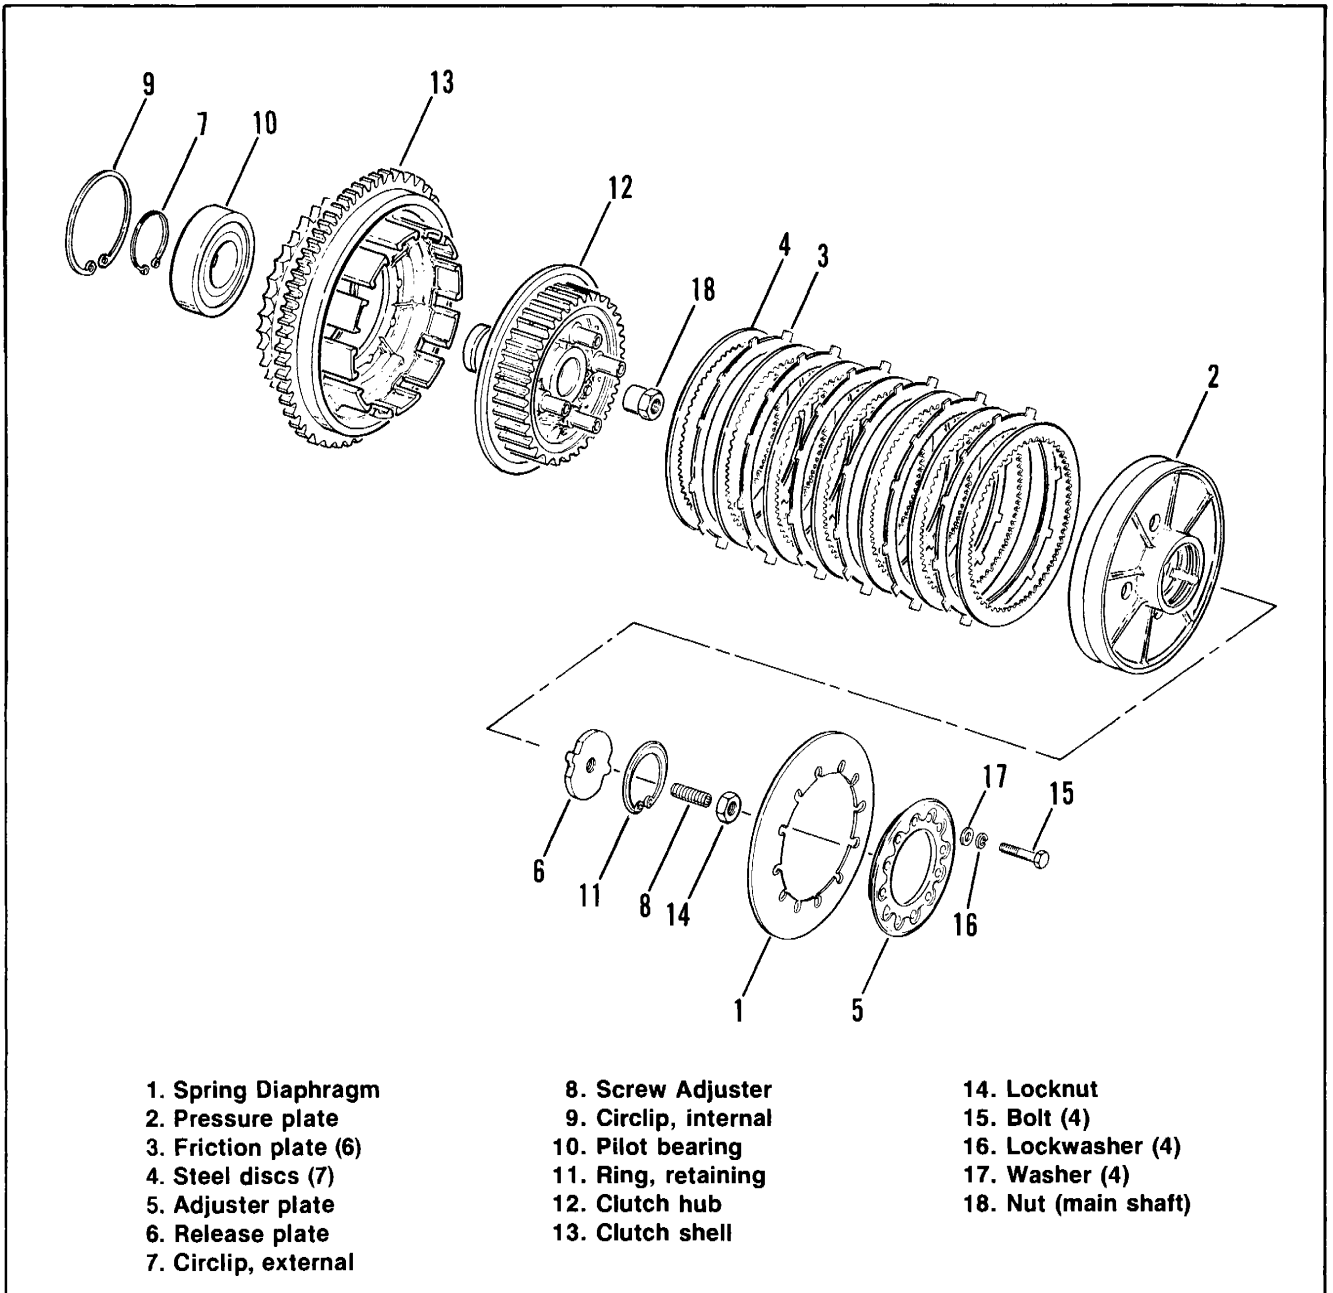

Figure 6-25. Wet Clutch — Exploded View
4. See Figure 6-25. Alternately loosen and remove the four bolts (15) together with lockwashers (16) and washers (17). Remove the adjuster plate (5) and spring diaphragm (1).
5. Remove pressure plate (2). The friction plates (3) and the steel discs (4) can now be changed or inspected without any further disassembly.
6. Remove nut (18) from the end of transmission main shaft. **The nut and shaft have left hand threads.** Remove push rod end piece.
8. See Figure 6-25. Remove the steel discs (4) and friction plates (3).
9. With lock ring pliers, remove internal circlip (9) and external circlip (7).
CLEANING, INSPECTION AND REPAIR (Figure 6-25)
- See Figure 6-25. With lock ring pliers, expand external circlip (7) into groove next to pilot bearing.